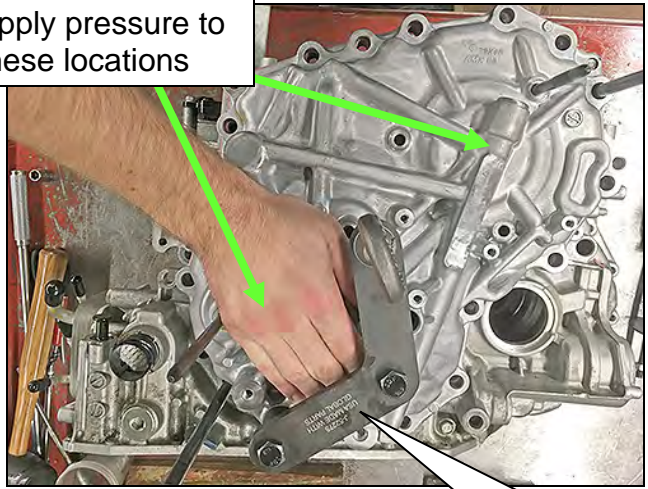

Figure 17F
- Remove the Side Cover Alignment Aid (# J-52275) shown in Figure 17F.